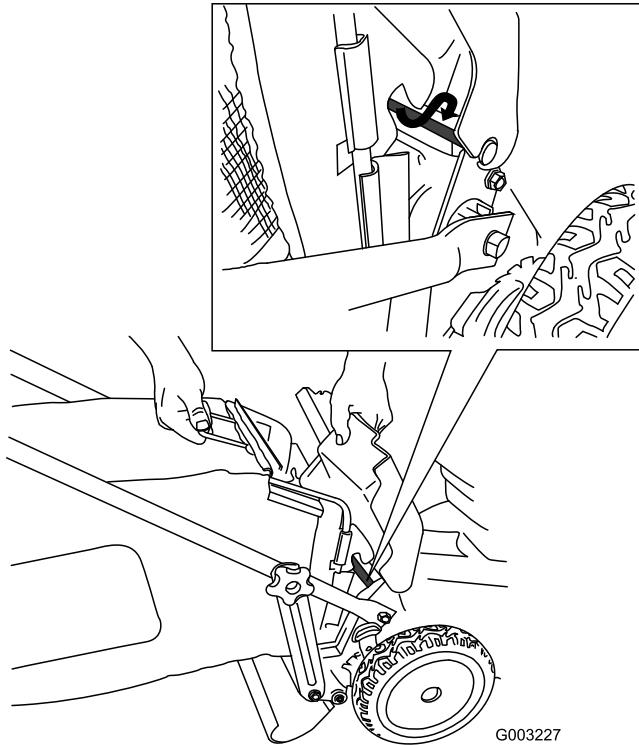

Figure 36
4. Install the bag onto the door rod (Figure 36).